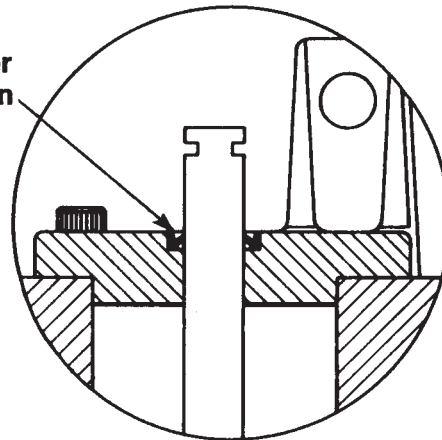

FIGURE 3
1. Assemble the rod wiper (#15092) on the piston in the pump body cap. See detail Figure 3.